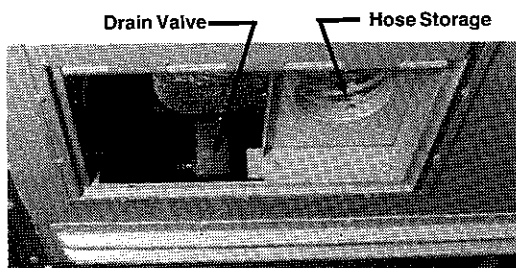

Figure 5-4. Location of Holding Tanks Drain Valve
2. Remove the safety cap from the single discharge connection by turning the locking ring in a counter-clockwise direction and connect the 3-inch sewer hose coupling to the end of the valve. Tighten locking ring securely, in a clockwise direction. The sewer hose is stored within a tube accessible through a compartment door located above the drain cap, figure 5-4.